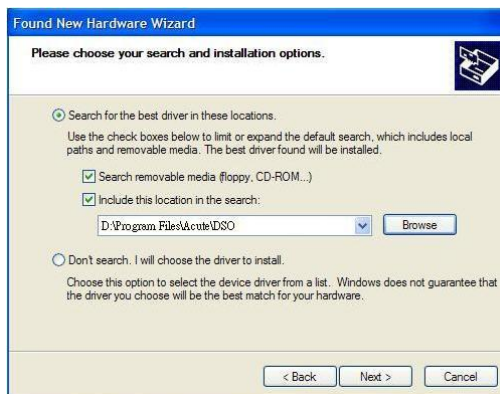

Figure 3
- (3) Choose “Search for the best briver in these locations” (Figure 3); select the DSO directory and click “Next”.